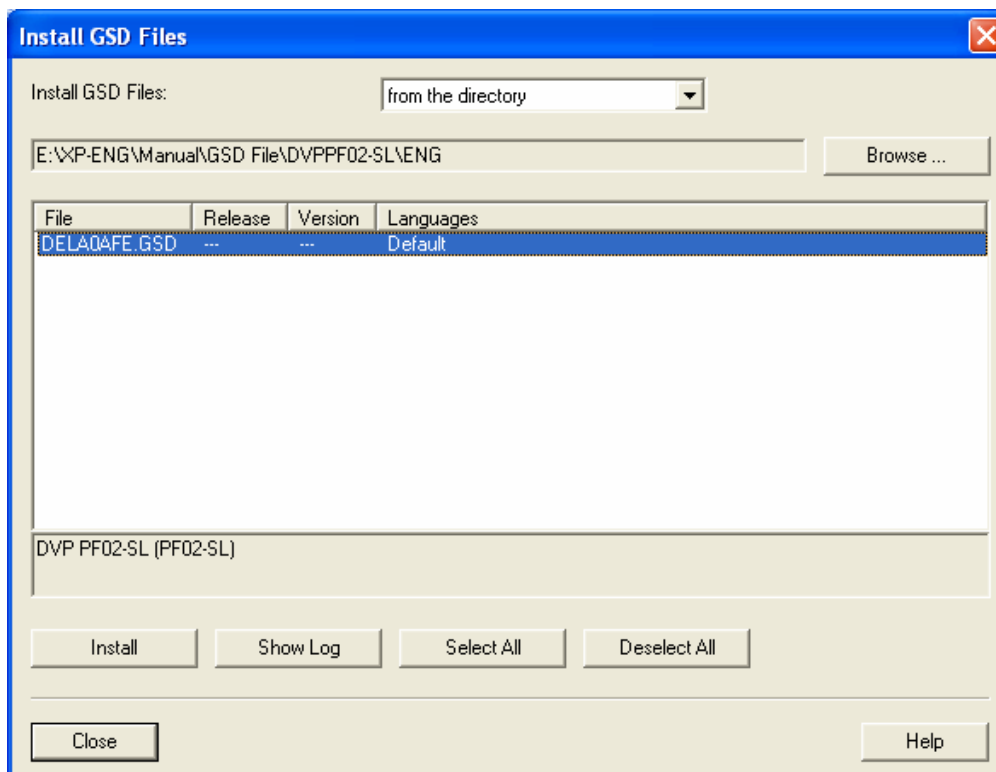

Figure 10-18
2. Find the location to save the GSD file, select the GSD file to be installed and click “Install”, as Figure 10-18.